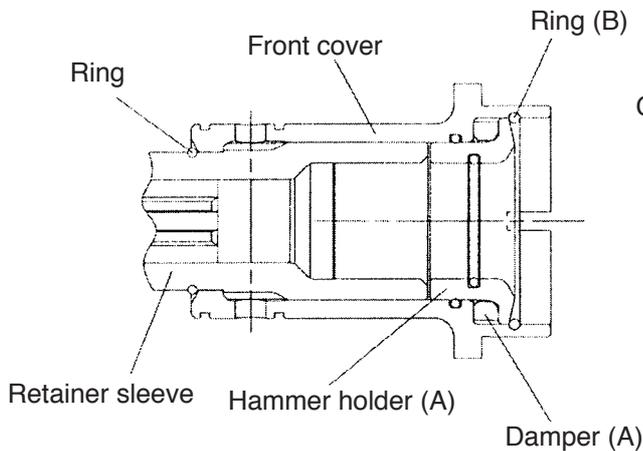

Fig. 14
Remove the Seal Lock Hex. Socket Hd. Bolt M6 x 25 [11] from the Front Cover [12]. Then the Front Cover [12] and the Retainer Sleeve [16] can be removed from the Cylinder Crank Case [47]. Insert a small flat-blade screwdriver into the groove of the Front Cover [12] and remove Ring (B) [20]. Then Hammer Holder (A) [18] and Damper (A) [17] can be removed from the Front Cover [12]. Remove the Ring [3] to remove the Retainer Sleeve [16] from the Front Cover [12] (Fig. 14).